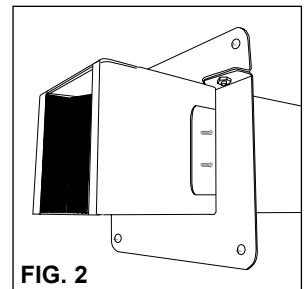

FIG. 2
2. Slide pathway into opening in wall plate. Pre position and fasten wall plate to one side of pathway (Fig. 2) roughly centering pathway within barrier.